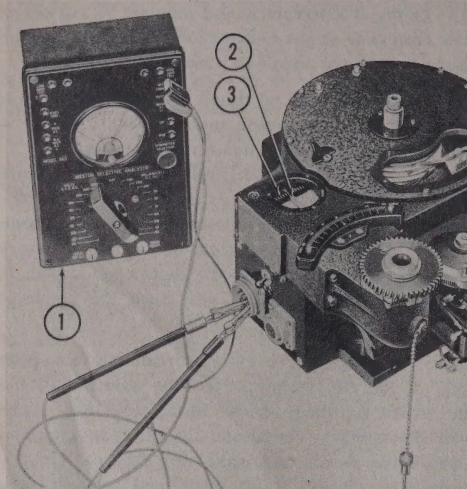

Figure 287 — Centering Pilot's Directional Indicator Potentiometer
(14) CENTER THE POTENTIOMETER.
(a) (See figure 287.) Line up the pointer (2) on the potentiometer brush assembly exactly with "0" on the wiper scale (3). Using an ohmmeter (1), check the resistance between the "8" and "9" prongs on the AN receptacle. If the potentiometer is properly centered, this should read 0 ohms. Then line up the wiper pointer, with the one-degree mark on the left side, and again check resistance. Record this resistance reading, and line the pointer up with the one-degree mark on the opposite side. Check this resistance against the resistance when the pointer was on the opposite side; if potentiometer is properly centered, the two resistance readings should be the same within five percent.